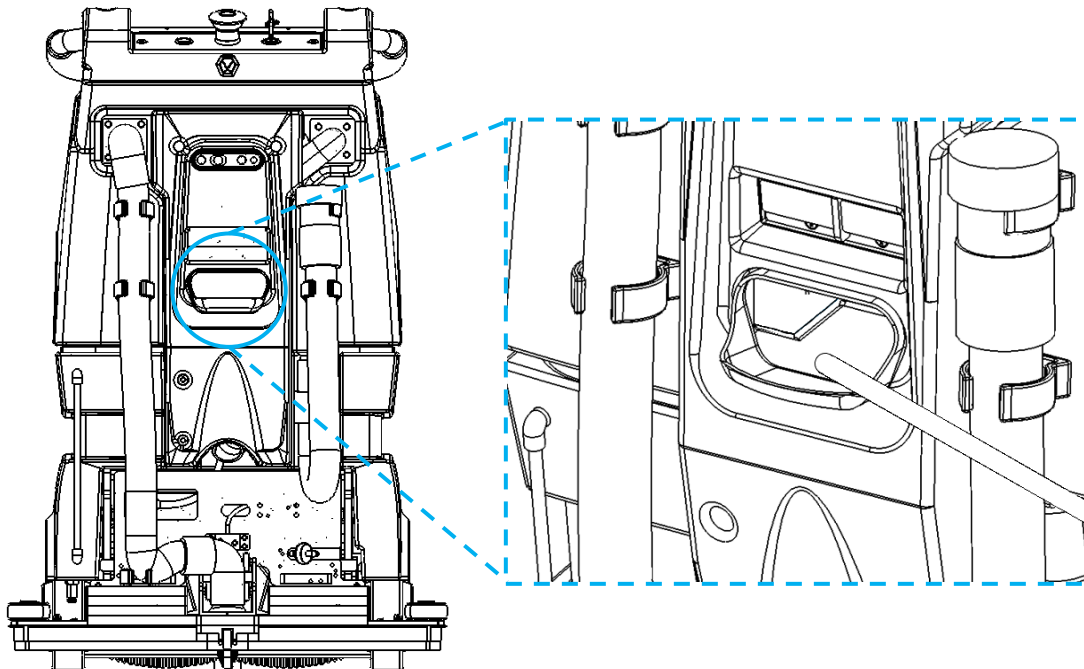

Fig. 2
3. Insert the other end of the clean water hose into the clean water inlet. Push a significant length of the tube into the inlet to prevent it from dropping out during filling (Fig 2).